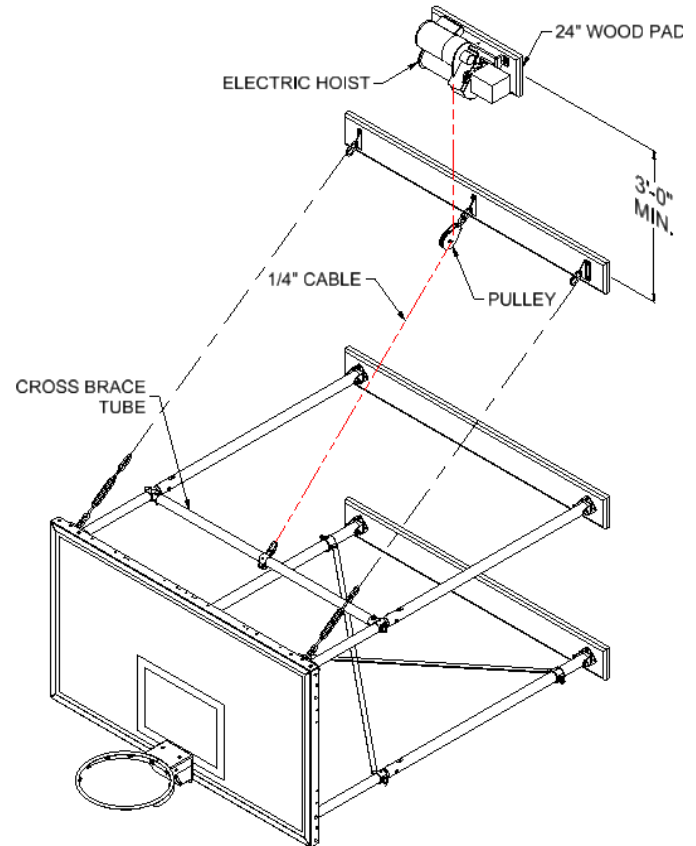

Figure 8 Electric hoist location
- 19) For an **Electric Hoist**, the hoist should be located a minimum of 3 ft above the upper wood buck as shown in figure 8. The hoist should be mounted to a 24" wood buck.